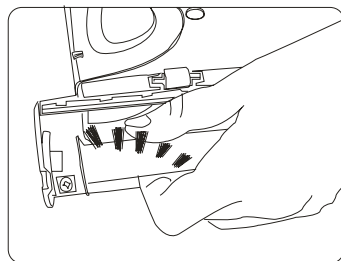

Fig. 16
6. Pull the brush bar out from the bushing and slip off the belt to remove the brush bar. (Fig. 16)
7. Insert the new brush bar by first inserting the brush bar into the bushing on the end opposite the driver belt. (Fig. 16)